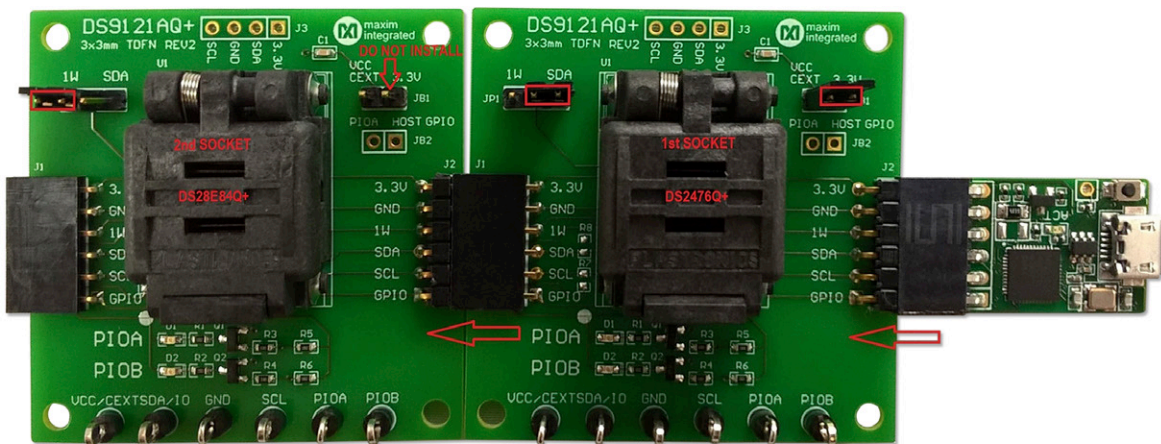

Figure 9. DS9481P-300 and DS9121AQ
- Connect the 1st DS9121AQ J2, 6-pin female socket, into the DS9481P-300#, 6-pin male plug per Figure 9.
- Connect the 2nd DS9121AQ J2, 6-pin female socket, into the 1st DS9121AQ J1, 6-pin male plug per Figure 9.
- For the 1st DS9121AQ+ socket boards that contains DS2476, configure jumpers JP1 to use SDA and JB1 to use 3.3V per Figure 9.
- For the 2nd DS9121AQ+ socket boards that contains DS28E84, configure jumpers JP1 to use 1W and JB1 do not install per Figure 9.